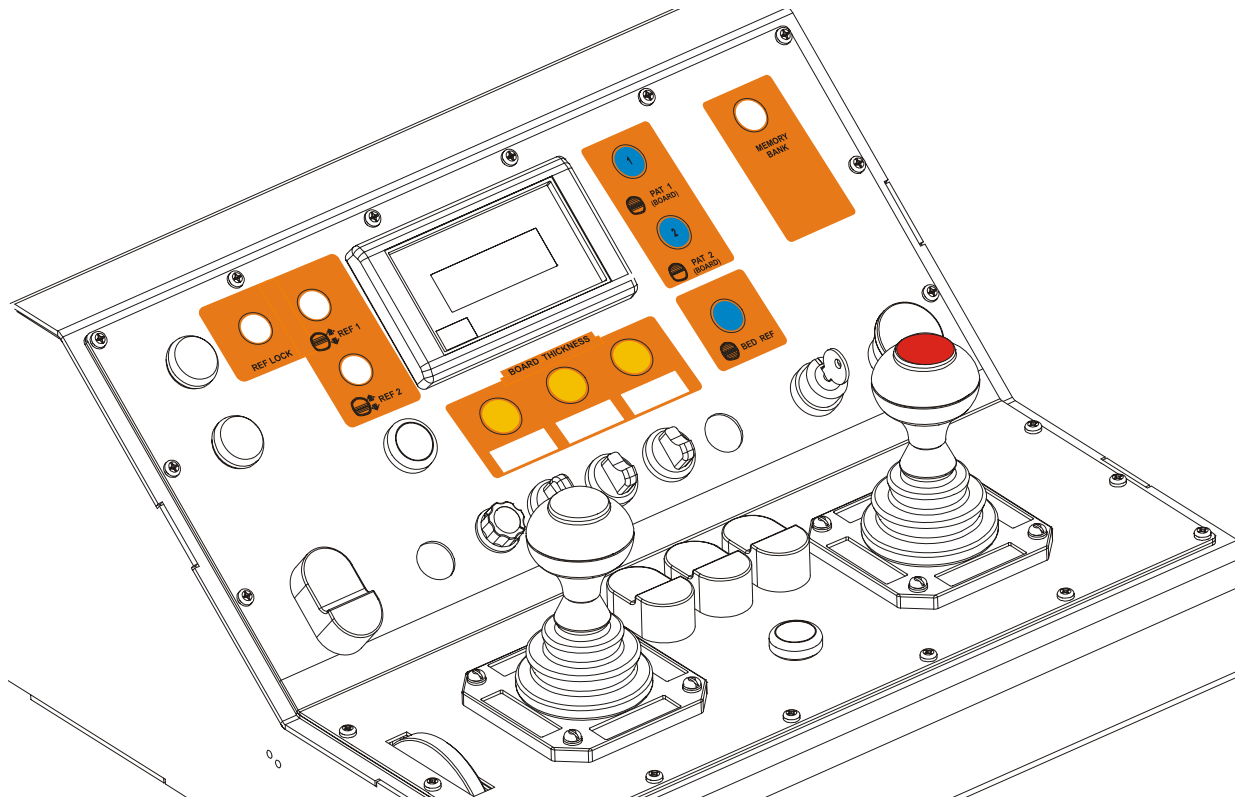

FIG. 4-10
See Figure 4-10. The control includes five buttons and MEMORY BANK button that can be used to program board thicknesses. These buttons are: three yellow BOARD THICKNESS buttons, located under the display, as well as the blue PAT 1 and PAT 2 buttons and MEMORY BANK button, located at the right of the display. When you are using PAT1 or PAT 2 function, the selected PAT1 or PAT2 button indicates thickness of the lowest dimension (cant) the saw will cut. Board thicknesses that will be used until you get this dimension can be programmed under Board Thickness buttons only. After pushing the Board Thickness button that stores a desired board thickness, the light located under this button comes on. When REF1, REF2 or REF LOCK function is on and you select either of PAT buttons, with a pre-programmed board thickness, this button will illuminate. The active board thickness is always shown on the display. To switch between the pre-programmed board thicknesses, use the **top button on the right joystick**. By pressing the **MEMORY BANK button** you can switch between memory banks (4).